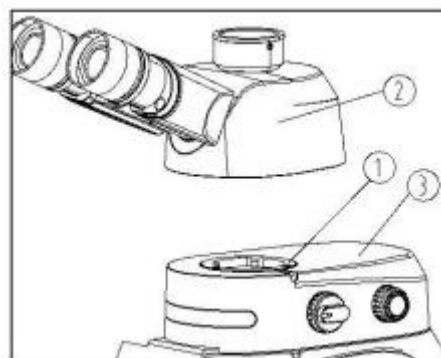

Figure 16
- 3) Place the dovetail interface at the bottom of the binocular/trinocular head (②) onto the interface seat of the LED fluorescence illuminator (③). Tighten it using the locking screw (①) with a hexagon spanner. (See Fig. 16)